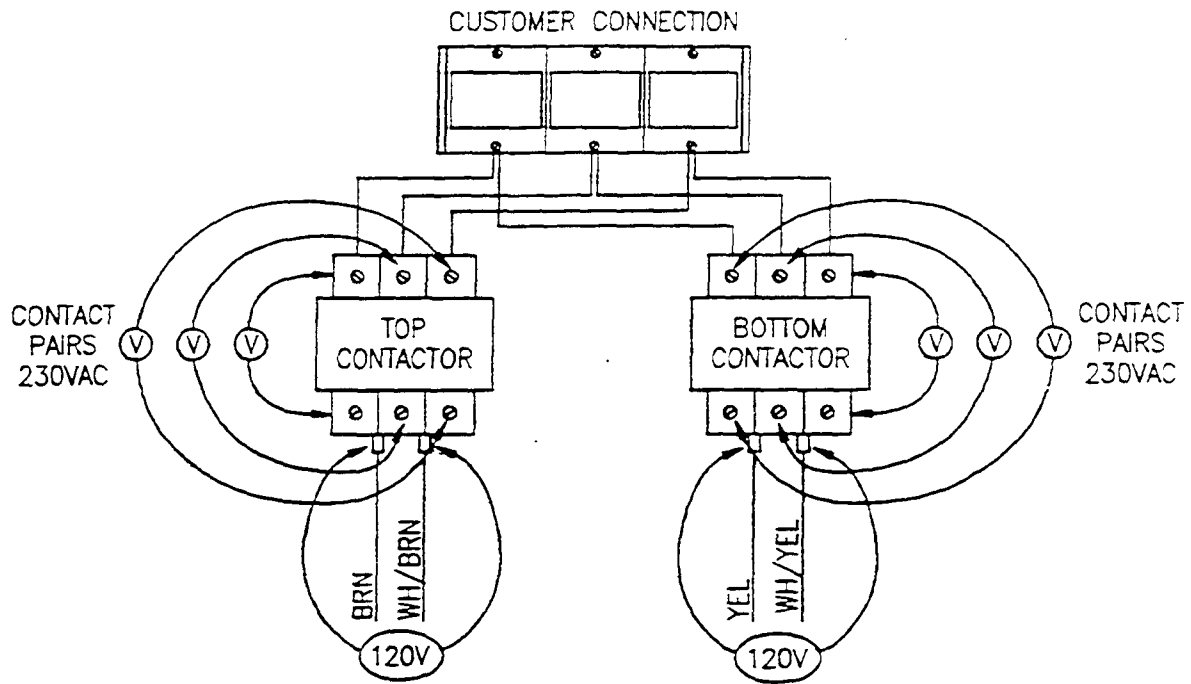

Figure 6-41. Upper and Lower Compartment Contactors
4. Refer to Figure 6-41, and check for 120 VAC across the heater contactor coil terminals.
5. Set the voltmeter to the 500 VAC scale. Refer to Figure 6-41, and check the voltage across the contact pairs.
4. Refer to Figure 6-41, and check for 230 VAC across all three heater coils.